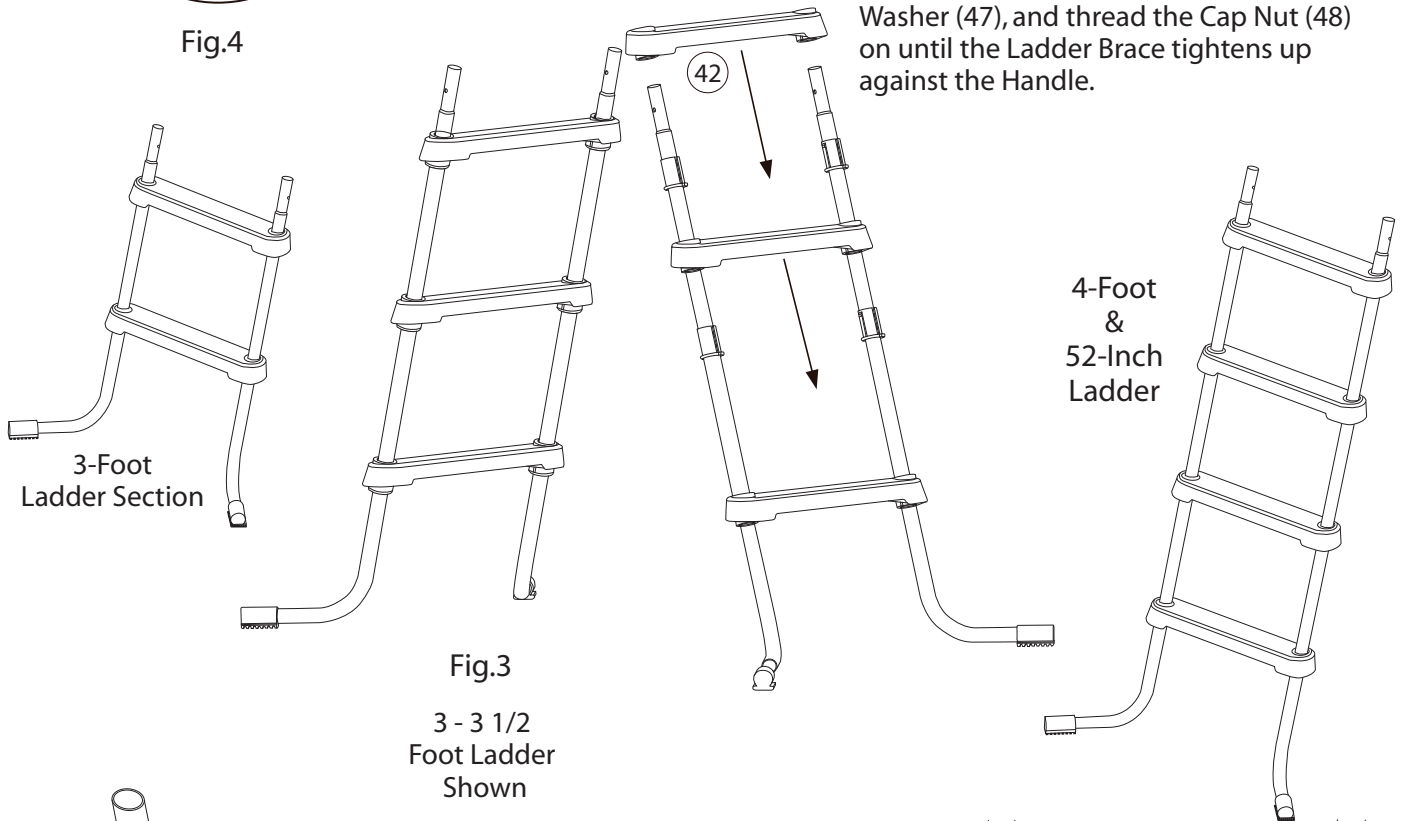

Fig.3
7. Stand both ladder leg sections in the upright position, with feet facing outward, as shown in Figure 3. Place the ladder handles (41), with the ladder handle braces on the outside of the ladder, on top of both ladder leg sections.